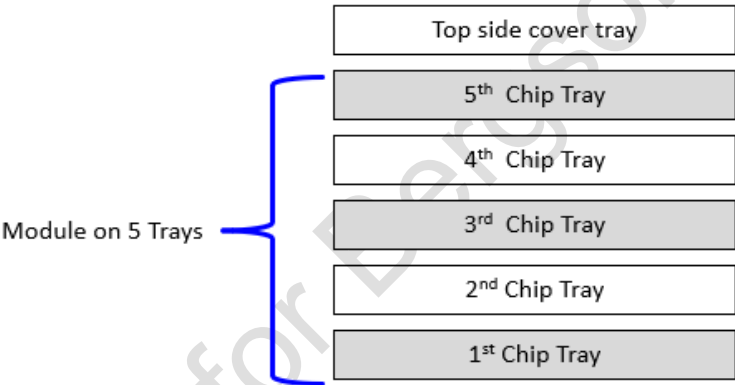

Figure 9. Stack 5+ 1 Chip Tray
- Stack 5 trays with one cover tray in a bunch, see Figure 9.